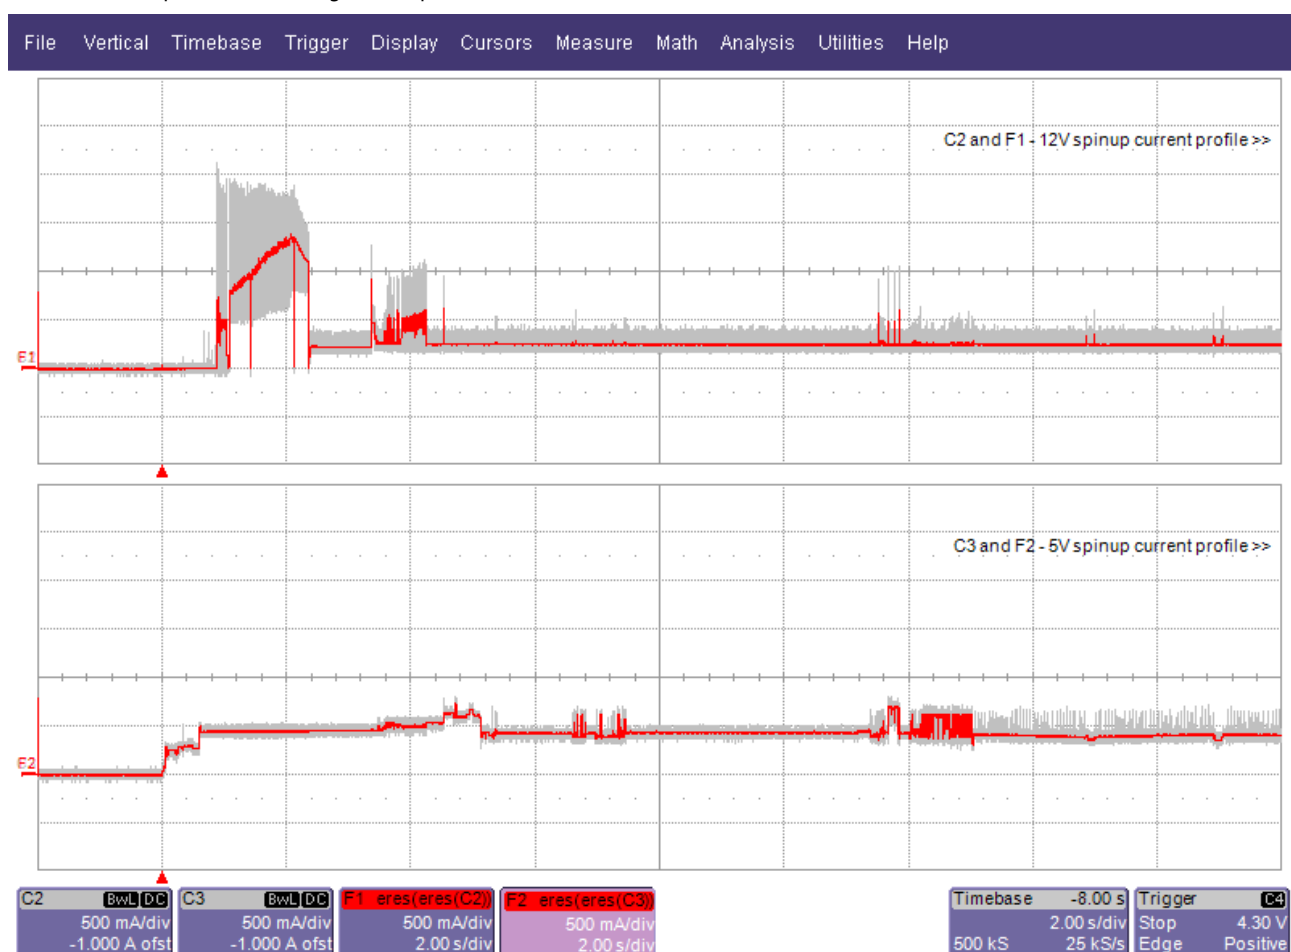

Figure 1. Current profile for 300GB models
- [3] See +12V current profile in Figure 1.